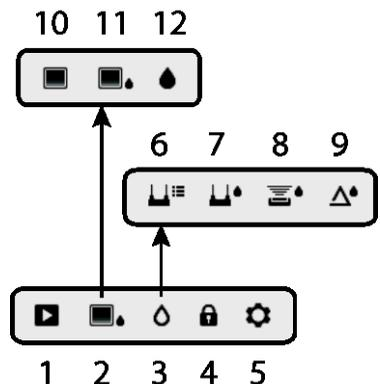

Fig. 4-2 Menu Icons
The Menu structure is outlined below and covered thoroughly in subsequent sections of this User Manual. The center Select button and the four (4) Navigation buttons are used to access and program the modes of operation available from the menus. Refer to Fig. 4-2.
Icons 1 through 5 in Fig. 4-2 make up the **Main Menu**. Press the Select button to open the Main Menu:
2. Image modes (items 10~14): IR, IR + IGM Moisture, Moisture only
Icons 6 through 9 in Fig. 4-2 are available in the **Moisture Mode Menu**. Press icon 3 to view these Moisture modes. A blue dot is shown to the left of the pin icon (7) or the pinless icon (8), depending on which is selected.
Icons 10 through 12 in Fig. 4-2 are available in the **Image Mode Menu**. Press icon 2 to view the Image Mode menu.